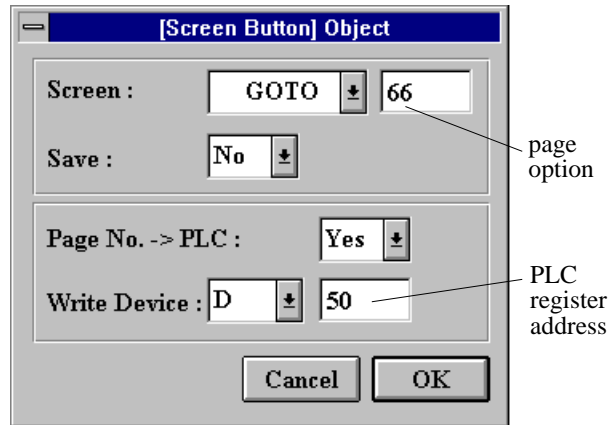

Fig. 3-17: Screen Button dialog
- 4) Release the mouse button. A **Screen Button Object Dialog** as Fig. 3-17 is popped up.